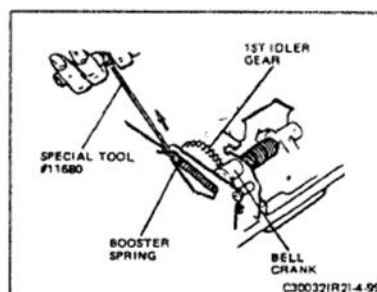

FIGURE 4-99 REMOVING BOOSTER SPRING
7. Use Special Tool #11680 to catch the end of the booster spring. Stretch the spring just enough to unhook the end of the spring from the outer plate (Figure 4-99).
13. Reconnect the booster spring (Figure 4-99).